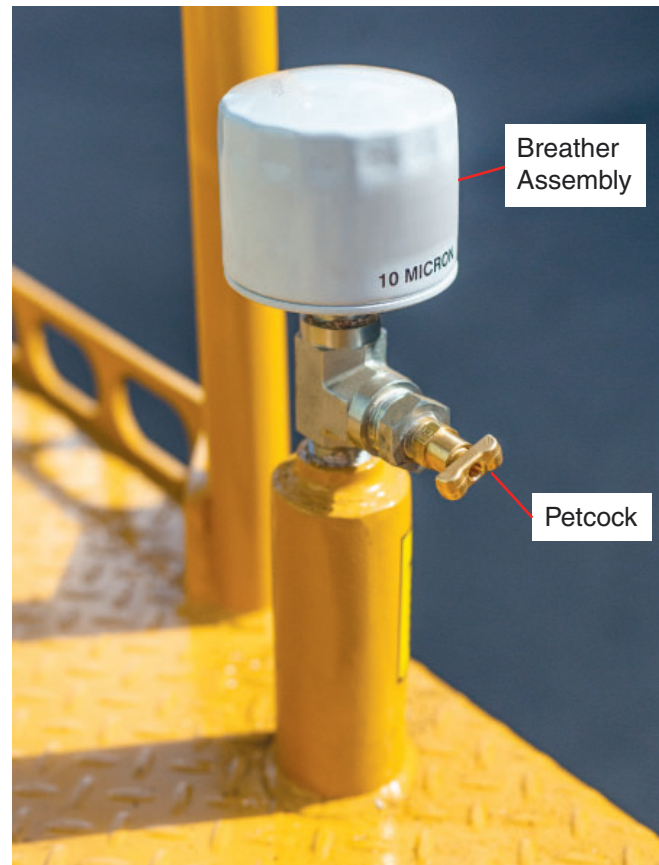

Figure 2 Hydraulic Tank Breather
- a. Open the petcock to temporarily depressurize the tank. See Figure 2.